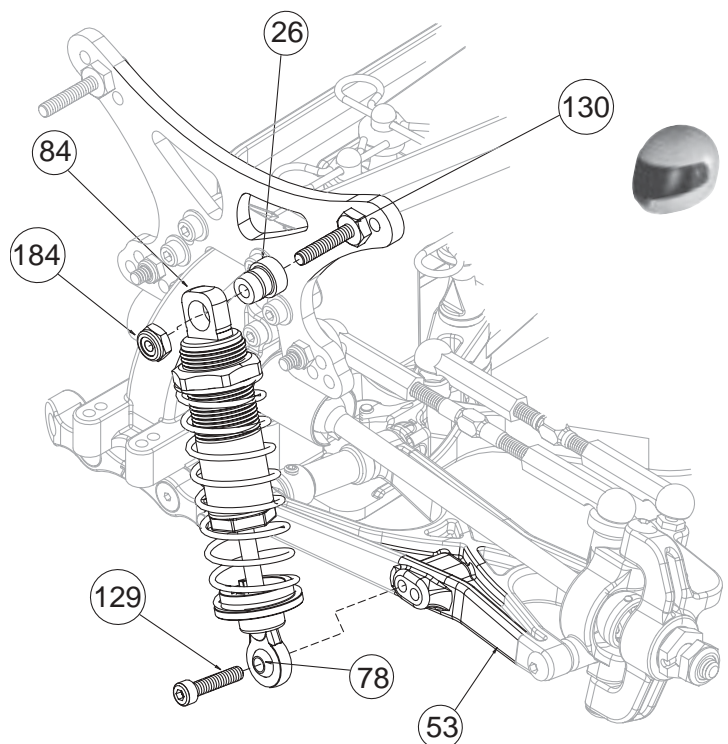

Figure 68
❑ 1. Position the bottom of an assembled front Shock in front of the Shock Mounting area on the left front suspension Arm (53) as shown in Figure 68. Align the hole in the Shock Mount Ball (78) with the inside hole in the Arm (53).